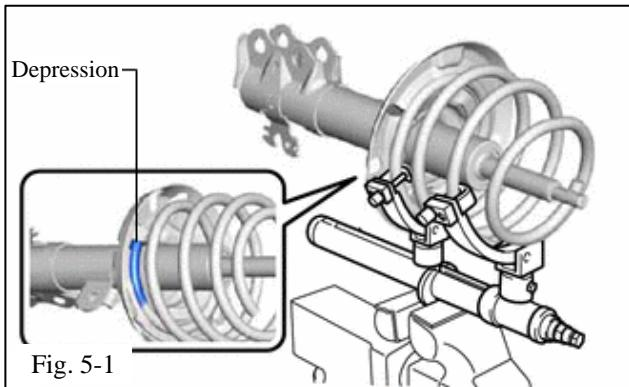

Fig. 5-1
- Install the front TRD spring (Fig. 5-1).